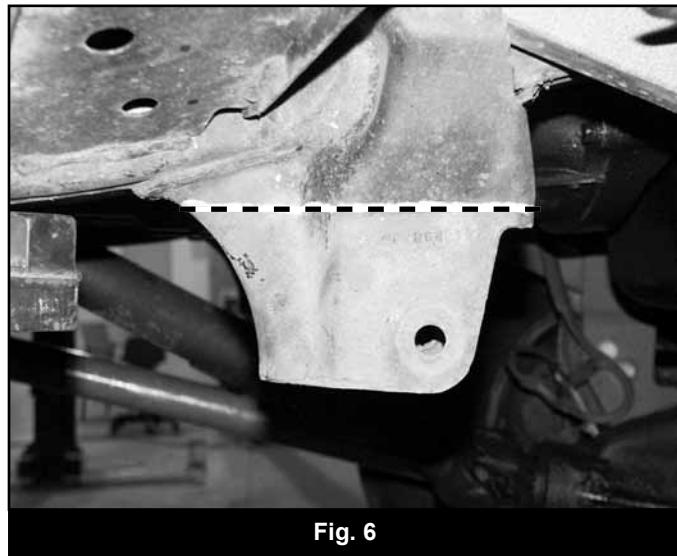

Fig. 6
19. Mark a line parallel with the bottom of the frame on the lower control arm pockets and cut old pockets off. (Fig. 6)